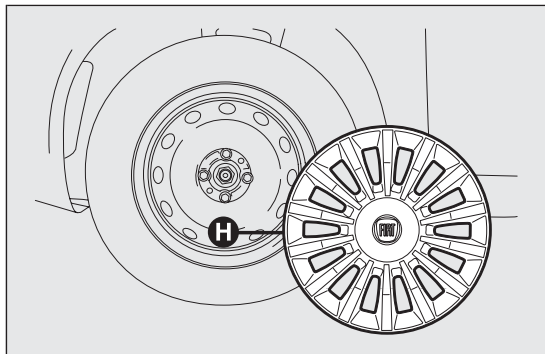

fig. 143
- ❑ remove hub cap H fig. 143 (versions with steel rims) or remove the hub cap (versions with alloy rims);